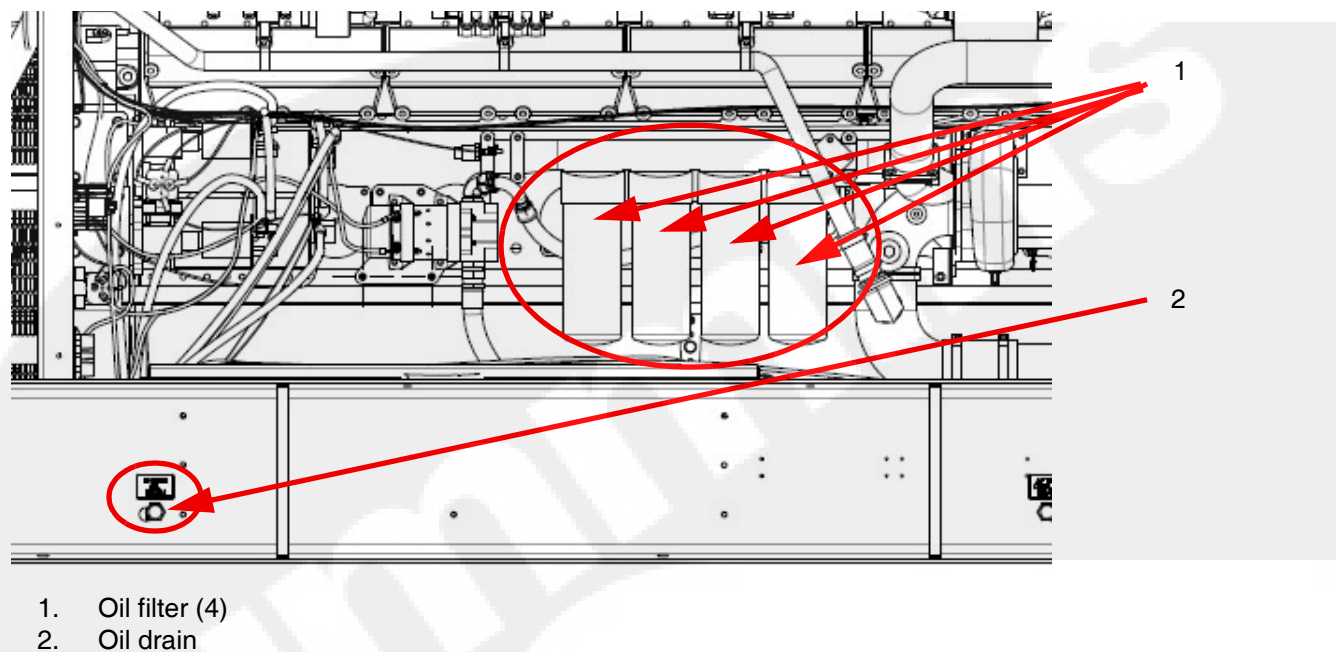
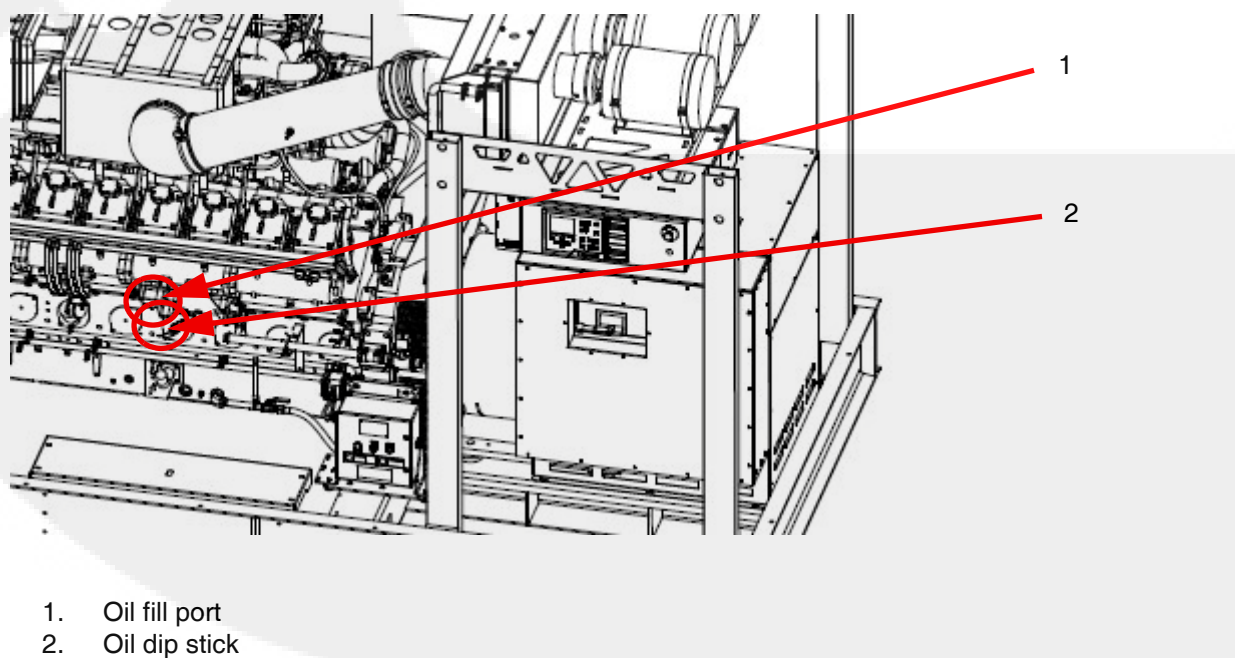

Figure 7-3 Lubrication system (GenSet right side)
Figure 7-4 Lubrication system (GenSet left side)
For the GenSet oil specifications, refer to 9.5 C1000N6B/C1300N6 oil specification. The GenSet lubrication system is shown in Figure 7-3 and Figure 7-4.
The GenSet oil filters (4), oil drain, and oil drain valve are all located on the right side of the GenSet (see Figure 7-3). To change the oil: